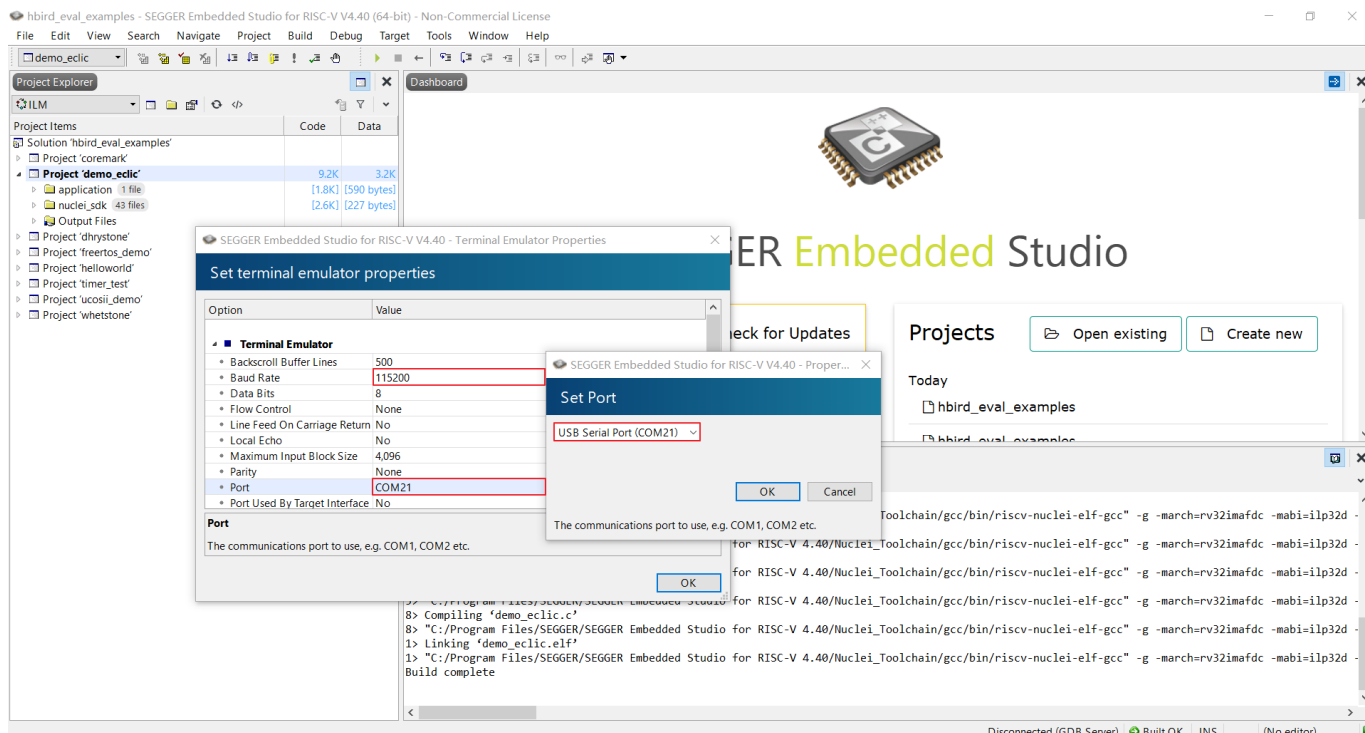

Figure 4-10 Set Baud Rate and COM Number
- The connected COM port can be found (after the driver is installed correctly). As shown in Figure 4-10, set “Baud Rate” to 115200, then double-click “Port” option, select Serial Port number (as recognized by PC), and complete Serial Port selection.